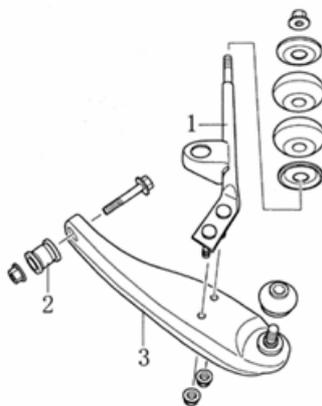
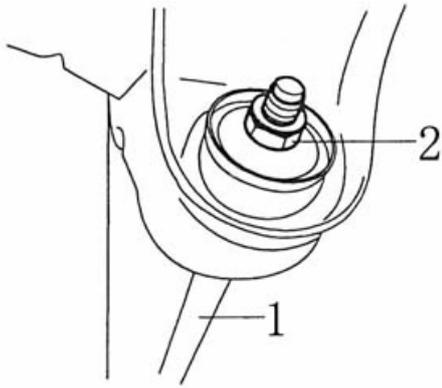

FIG.14-17
FIG.14-18
## 3 TENSION ROD AND LOWER ARM. (FIG.14-17)
- (1) Lift the vehicle, and then remove the wheel.
- (2) Remove the nut connecting tension bar and bracket (FIG.14-18).
- (5) After installing tension bar, rubber bush and washer to tension bar bracket according to FIG.14-17, tighten nut to specified torque (FIG.14-18).
- (6) Wheel installation can refer to wheel group.